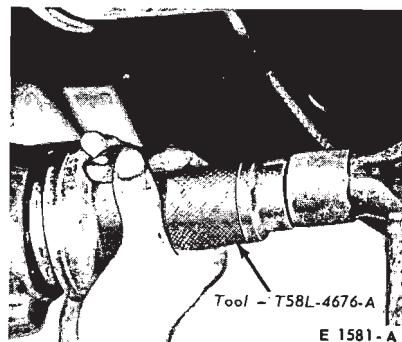

FIG. 20—Installing Pinion Seal
5. Install a new oil seal in the carrier casting (Fig. 20).